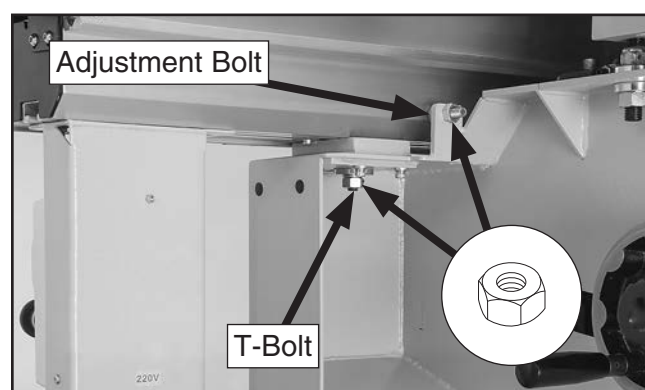

Figure 157. Front parallelism adjustment bolt and T-bolt.
6. Loosen hex nuts on sliding table T-bolts to allow sliding table to move in next step (refer to **Figures 157–158**), and loosen hex nuts on each adjustment bolt.